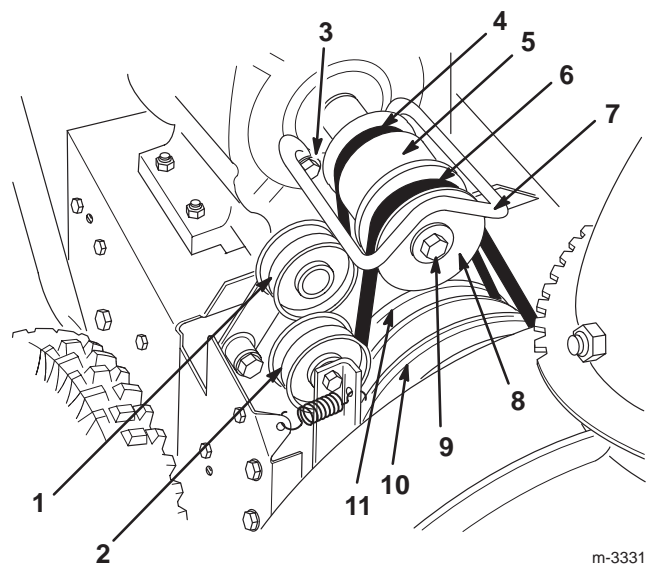

Figure 25
6. Remove 2 bolts, 2 washers, and 2 lock washers that secure the belt guide (Fig. 25).
7. Remove the engine crankshaft bolt, lock washer, and washer (Fig. 25).
8. Separate and remove the engine pulley sheave (Fig. 25).
10. Remove the engine pulley (Fig. 25).
11. Remove the traction drive belt from the traction pulley and the engine crankshaft (Fig. 25).
12. Pull the traction idler pulley outward and install a new traction drive belt (Fig. 25).
14. Pull the idler pulley outward and loop the auger/impeller drive belt in front of the engine pulley, ensuring that the belt is on the inside of the idler pulley (Fig. 25).
6. Remove the 2 bolts, 2 washers, and 2 lock washers that secure the belt guide (Fig. 25).
9. Remove the auger/impeller drive belt (Fig. 25).
10. Pull the idler pulley outward and install a new belt around the large auger/impeller pulley (Fig. 25).
11. Loop the belt in front of the engine pulley, and ensure that the belt is on the inside of the idler pulley (Fig. 25).